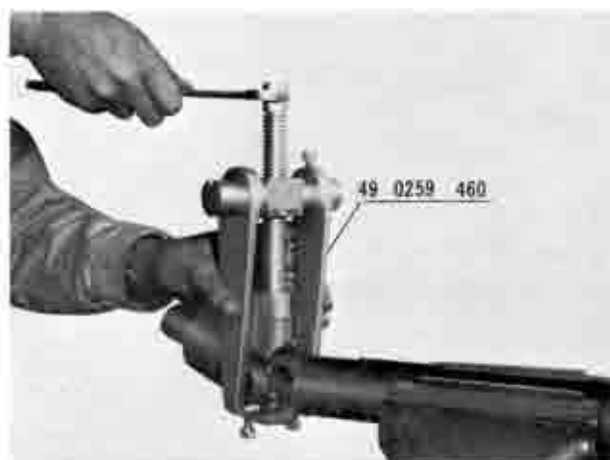

Fig. 8-3 Disassembling universal joint.
3. Install the **universal joint replacer** (49 0259 460) to the universal joint yoke as shown in Fig. 8-3.